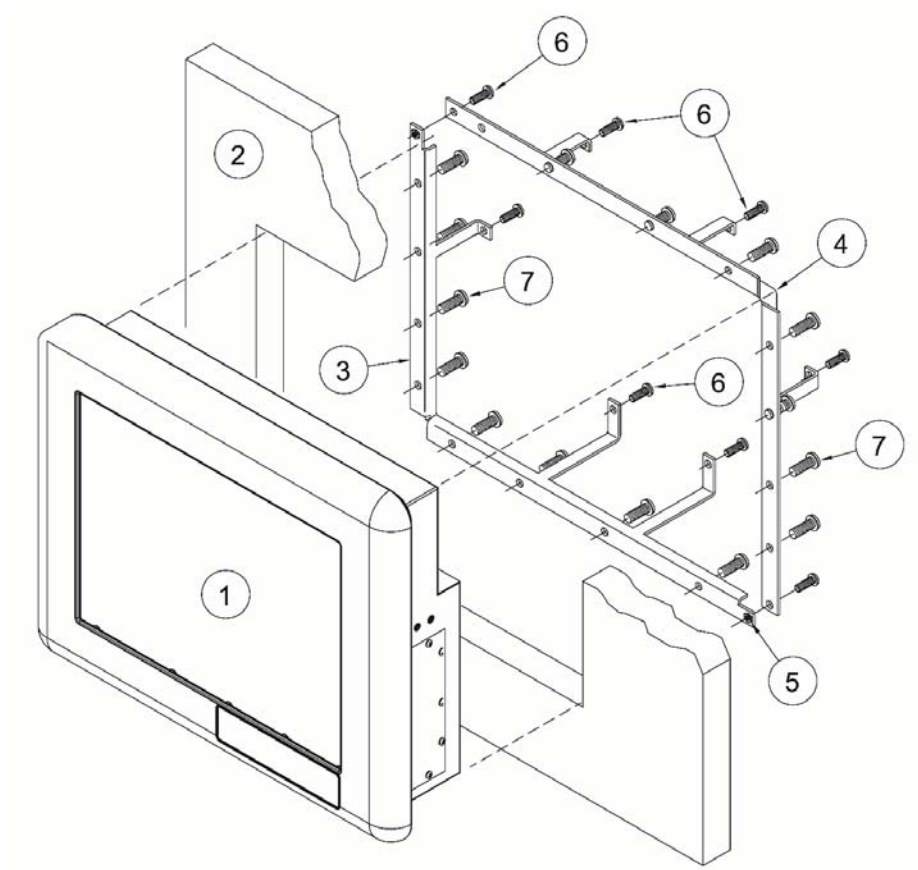
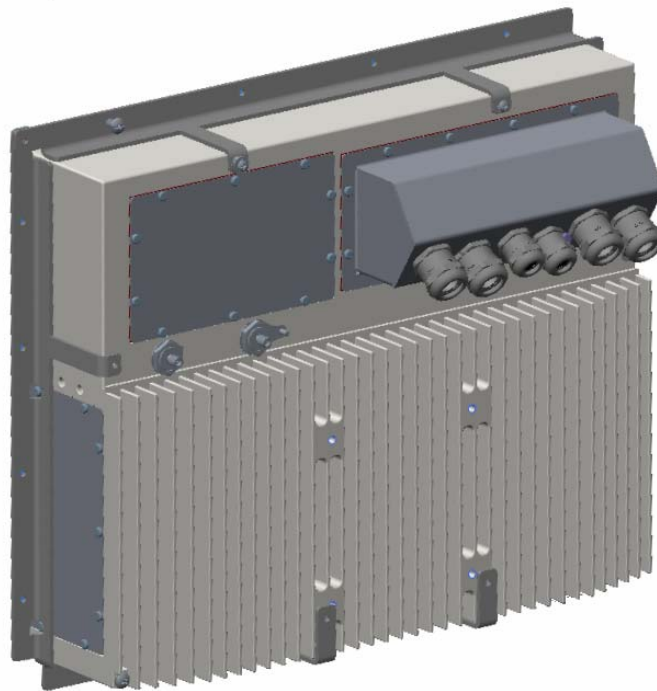

Figure 4.13 Panel Mount Assembly
Figure 4.14 Panel Mount Frame Assembly Mounted to XT Unit
2. Secure the right panel mount bracket (item 4) and left panel mount bracket (items 3) together with #6-32 Phillips pan head screws (item 6) threaded into the Pemserts (item 5). Tighten the screws to 1.2 Nm (11 in.-lb.). See Figure 4.13.
3. Thread sixteen #10-32 Phillips pan head screws (item 7) into the threaded holes in the frame until they just protrude from the other side. Do not thread them in all of the way.
4. Look at the back of the XT unit and find the six threaded mounting holes. There are two along the top, two along the bottom, and one on each side. Refer to Figure 4.14.
5. Look at Figure 4.13 and Figure 4.14 to see the proper orientation of the panel mount bracket assembly.
6. Install the XT unit (item 1) through the panel cutout (item 2) from the front side.